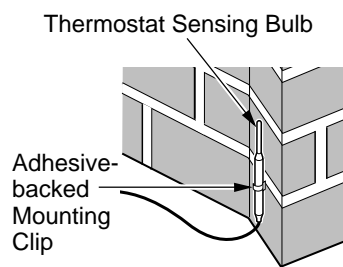

Figure 44 - Locating Thermostat Sensing Bulb on Masonry Fireplace
3. The thermostat sensing bulb may be located to the lower right front side of fireplace. Determine location of sensing bulb, but do not mount sensing bulb until step 5. If you have a masonry fireplace, see Figure 44 for location.